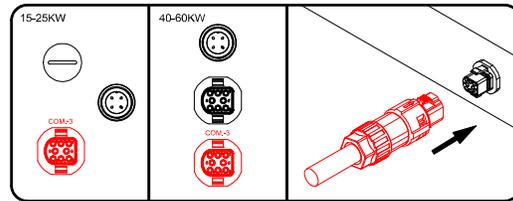

FIG 10 Insert the plug onto the inverter
- 7) Find the corresponding socket position on the inverter, remove the protective cover from the socket, insert the plug into the socket, and ensure that it is installed in place, as shown in FIG 10.